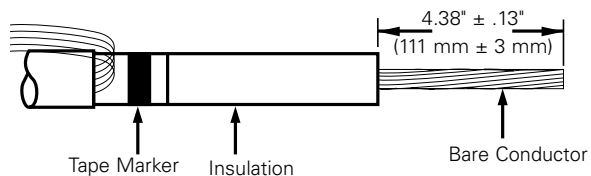

Figure 17. Line illustration of bare conductor length.
- Remove insulation exposing bare conductor to length of 4.38" (111 mm). Refer to Figure 17.